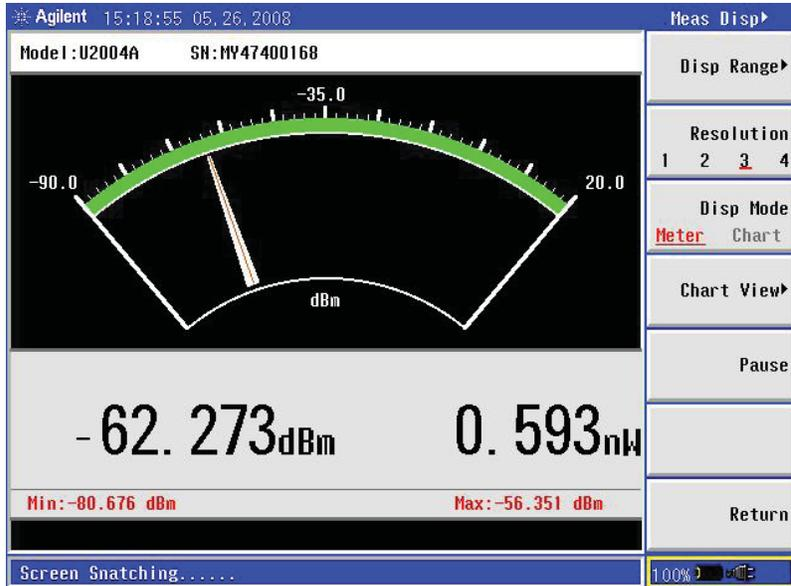

Figure 16 Meas Disp menu allows you to configure the display measurement and resolution
4. Press {Return}. Press {Meas Disp ▶} (see Figure 16).